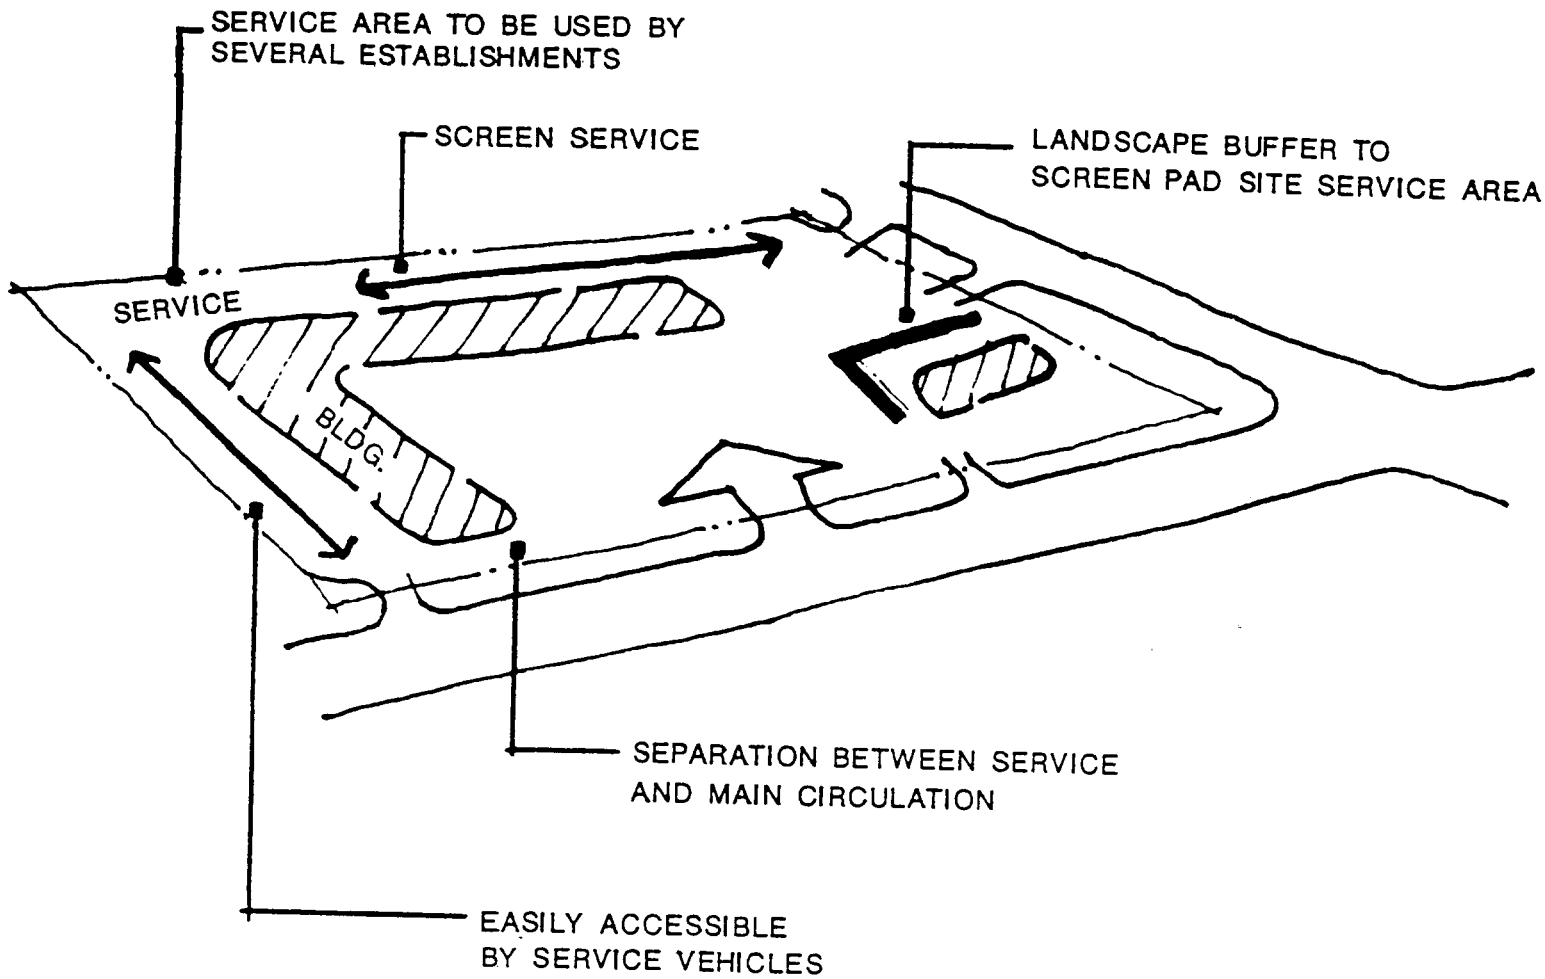

FIGURE 6
- Service facilities should generally be located in a central area to be used by several retail establishments. (See Figure 6.)